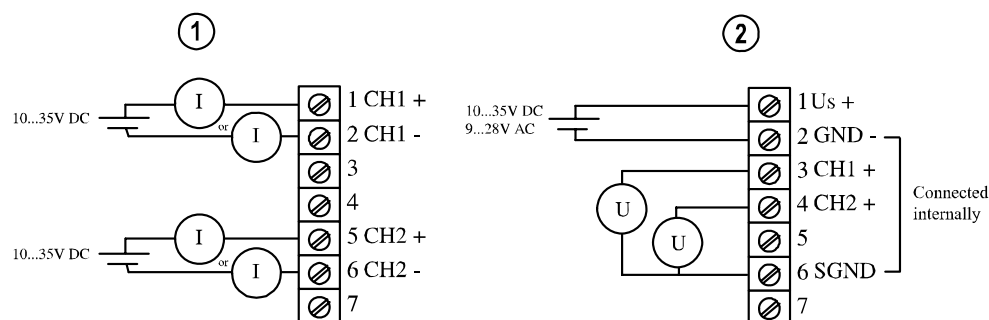

Figure 1 (1) Isolated Current-Loop Wiring, (2) Voltage Output Wiring
3. Connect the wires as indicated in Figure 1 and in Table 1. Note that you must wire the transmitter according to the type of transmitter (specified at order time; 2-wire current output or 3-wire voltage output).
The numbers 1 ... 7 in the first column of the wiring table refer to Figure 1 above. If you have at order time selected a two-wire transmitter, make the wiring according to item 1 in Figure 1. If you have selected a three-wire transmitter, make the wiring according to item 2 in Figure 1.